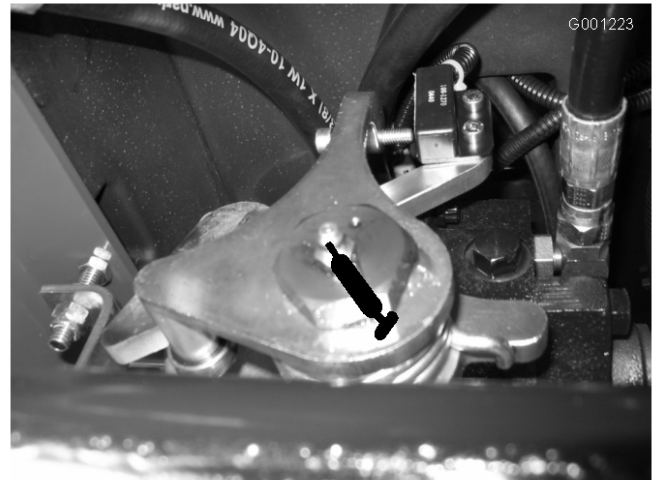

Figure 38
- Transmission neutral shaft (Figure 38)